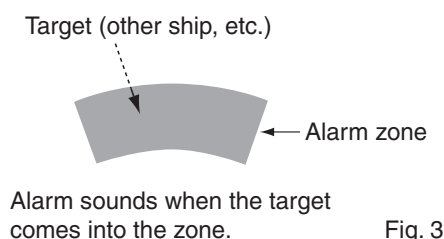

Fig. 3
- ① Push [MENU]/[菜单] one or more times to open the FUNCTION menu.
- ② Hold down [▼] until the “ZONE ALARM” section becomes highlighted.
- ③ Push [◀] [▶] to select IN or OUT
- IN : Alarm sounds when the target comes into the zone. (see Fig. 3)